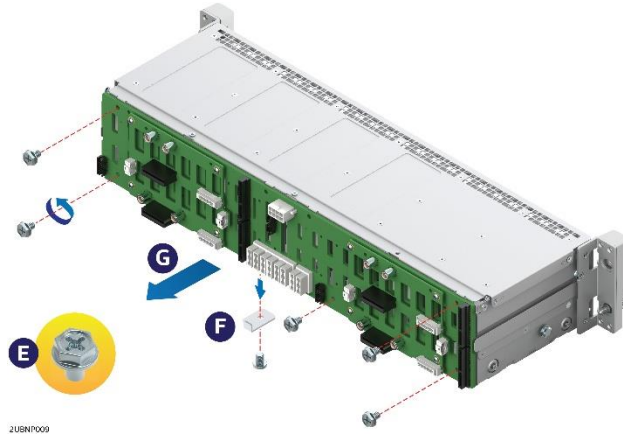

Figure 53. Removing the 24 x 2.5" hot swap backplane SAS/PCIe* SFF combo
3. Remove the five screws from the backplane board (E), remove the screw and the bracket from the bottom of the drive cage (F), and detach the backplane board from the drive cage (G) as pictured in Figure 53.